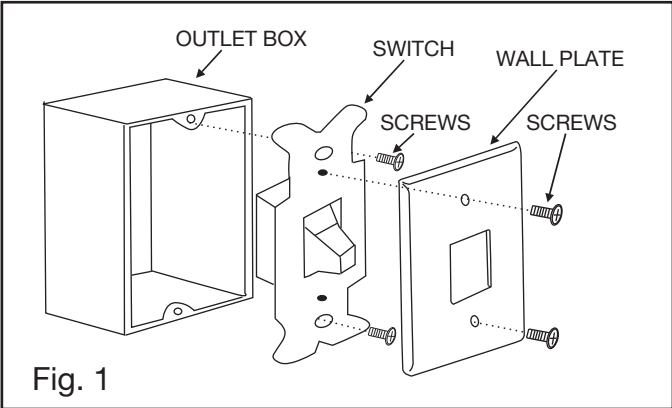
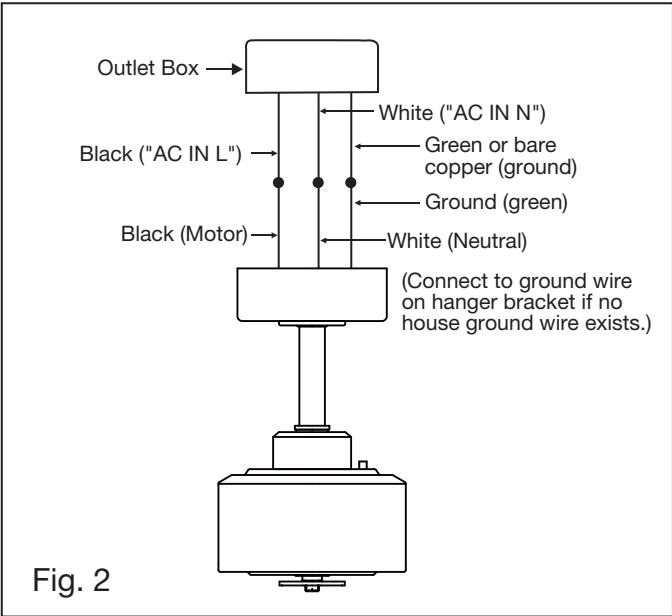

Fig. 1
Fig. 2
- 1 Remove ball from downrod by loosening set screw in the side of the ball. Slide ball down and remove ball pin; remove ball. (Fig. 1)
- 3 Loosen the two security set screws and remove the downrod pin instead of hitch pin from the coupling on top of the motor assembly. (Fig. 2)
- 1 Disconnect the power and remove the existing wall plate and switch from the wall junction box. (Fig. 1)
- 1 Connect the fan supply (black) wire to the black household supply wire as shown in Figure 2
- 2 Connect the neutral fan (white) wire to the white neutral household wire (Figure 2).
- 1 Place blade over blade arm and align blade with mounting holes in blade arms. Repeat this procedure without tightening the screw until all 3 screws and nuts have been started into the blade arm (Fig. 1).
- 3 Fasten blade assembly to motor with provided screws and lock lockwashers by uses Blade Arm Wrench. (Fig. 1) Repeat procedure for remaining blades. Make sure screws are **TIGHT**! Loose motor screws can contribute to unnecessary hum during operation. (Fig. 2)